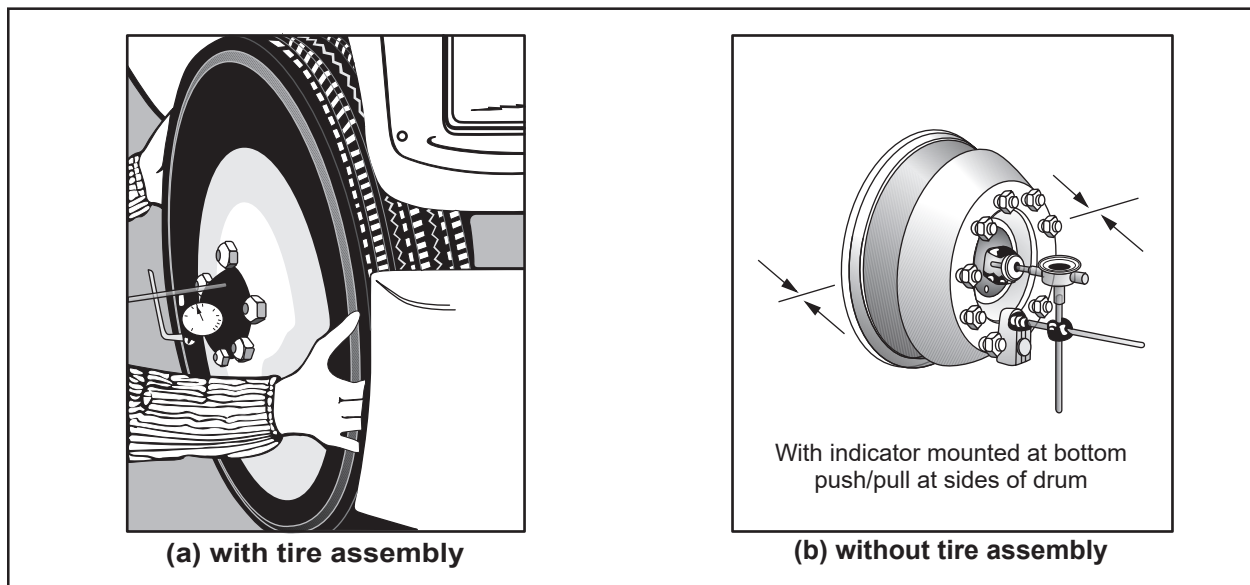

Fig. 1: Dial Indicator Set-Up
- (c) Adjust the dial indicator so that its plunger or pointer is against the end of the spindle with its line of action approximately parallel to the axis of the spindle. See **Fig. 1**.